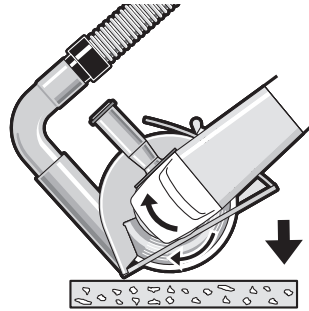

FIG. 15
- a. Tilt tool forward with wheel lined up with the cut line and hold the tool by the grinder body and the auxiliary handle (Fig. 15).